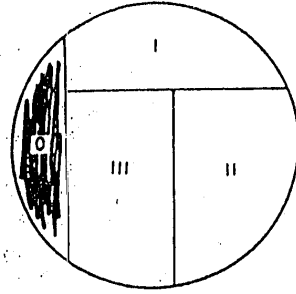

Figure 8-3
- 3- Begin step 1 of the technique now (Figure 8-3) . Using your pencil or pen, draw almost solid lines in Sector 0.